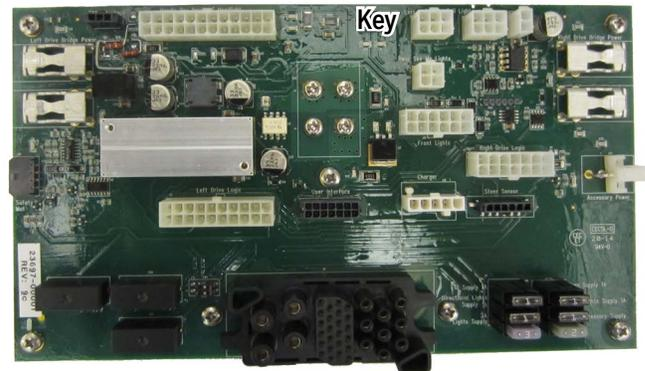

Figure 179: KeyLock Harness to PI Board
3. Disconnect the wire harness from the PI Board. See Figure 179.
2. Connect the wire harness to the PI Board. See Figure 179.